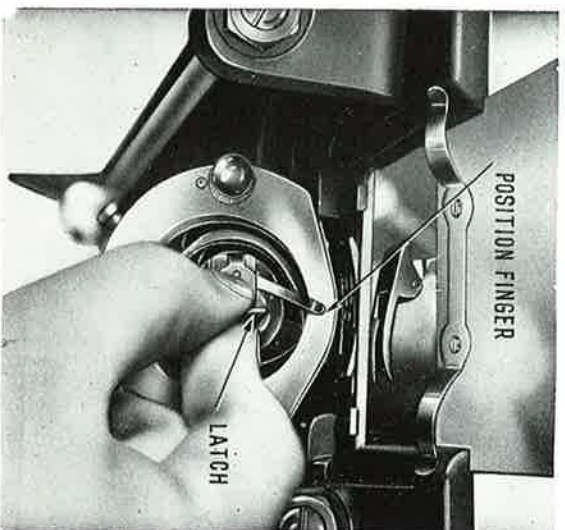

Fig. 8
5. Then release the stud of the shuttle (Fig. 8).